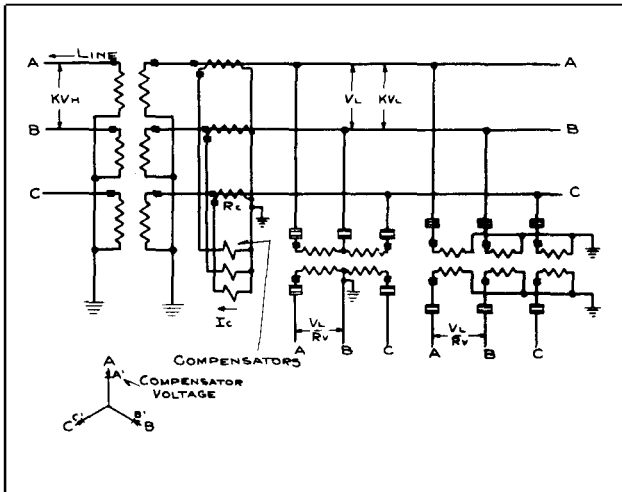

Fig. 4—Schematic Compensation Diagram for Star-Star (Or Delta-Delta) Connected Power Transformer Banks.
In this case the compensators are connected in star to star-connected low voltage current transformers as shown in Fig. 4. Then the compensator current is,
By definition the percent impedance of the power transformer is the percent voltage drop across the bank at unit current. As shown in the vector diagram of Fig. 4 the compensating voltage is in phase with a star current. Therefore, the voltage drop across the bank at unit current (in this case I_C) in terms of the star relay voltage is,
(Similar to Fig. 4 except compensation current transformers on high voltage side of bank). This is the same as the case above except equation (1) is in terms of KV_H instead of KV_L . Therefore, for star-star connected power transformers with star connected compensators on the high voltage side, the following formula applies:
circulating current in the delta which does not pass thru the current transformers. This is not important in applying relays for phase fault protection. The voltage appearing across the terminals L and T of the compensators is proportional to the difference between two equivalent power transformer current. The delta voltage AB is obtained from the voltages of the two transformers A and B, and it must be compensated by the drop in each of the two transformers. The star-delta auxiliary potential transformers provide voltages corresponding to the high tension voltages in phase position, but uncompensated in magnitude. Current A" feeding the A compensator is related to $I_A = I_C$ and current B" feeding B compensator is related to $I_B = I_A$. The compensators add the two voltages appearing across their terminals. Since the voltage path from A' to B' traverses the L and T terminals of the two compensators in opposite directions, the total compensated voltage is proportional to $3 Z I_A$ if $I_A + I_B + I_C$ is equal to zero. If $I_A + I_B + I_C$ is not equal to zero, there is a circulating current in the delta which will cause equal and opposite drops in transformers A and B so the delta voltage is still correctly compensated. Combining these compensator voltages with the low tension star voltages as shown, gives the compensated delta voltages for the relays. Thus, the compensated relay voltages from the vector diagrams are $E_{A'C}$, $E_{C'B}$, or $E_{B'A}$. This method of compensation should be used only when delta relay voltages are required as the voltages A', B' or C' to ground are not the true phase-to-ground compensated voltages as they are in Figs. 4 and 6.